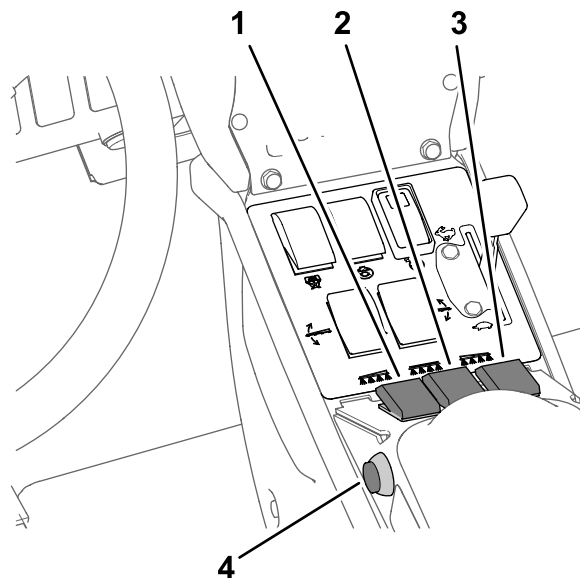

Figure 32
3. Set the master section switch to the OFF position; refer to Figure 32 in Spraying in the Application Rate Mode (page 32).
7. Set the individual section switches, as needed, to the ON position; refer to Figure 32 in Spraying in the Application Rate Mode (page 32).
9. Drive at the desired speed and then set the master section switch to the ON position to begin spraying; refer to Figure 32 in Spraying in the Application Rate Mode (page 32).